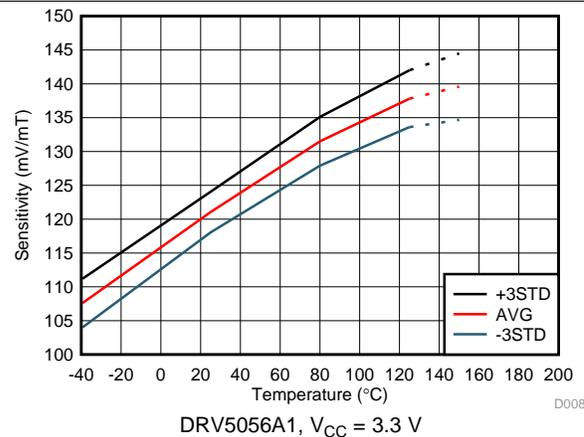

Figure 6. Sensitivity vs Temperature
(1) B is the applied magnetic flux density.
(2) B_L describes the minimum linear sensing range at 25°C taking into account the maximum V_Q and Sensitivity tolerances.
(3) See the Sensitivity Linearity section.
(4) S_{TC} describes the rate the device increases sensitivity with temperature. For more information, see the Sensitivity Temperature Compensation For Magnets section and Figure 6 to Figure 13.
(5) See the Ratiometric Architecture section.